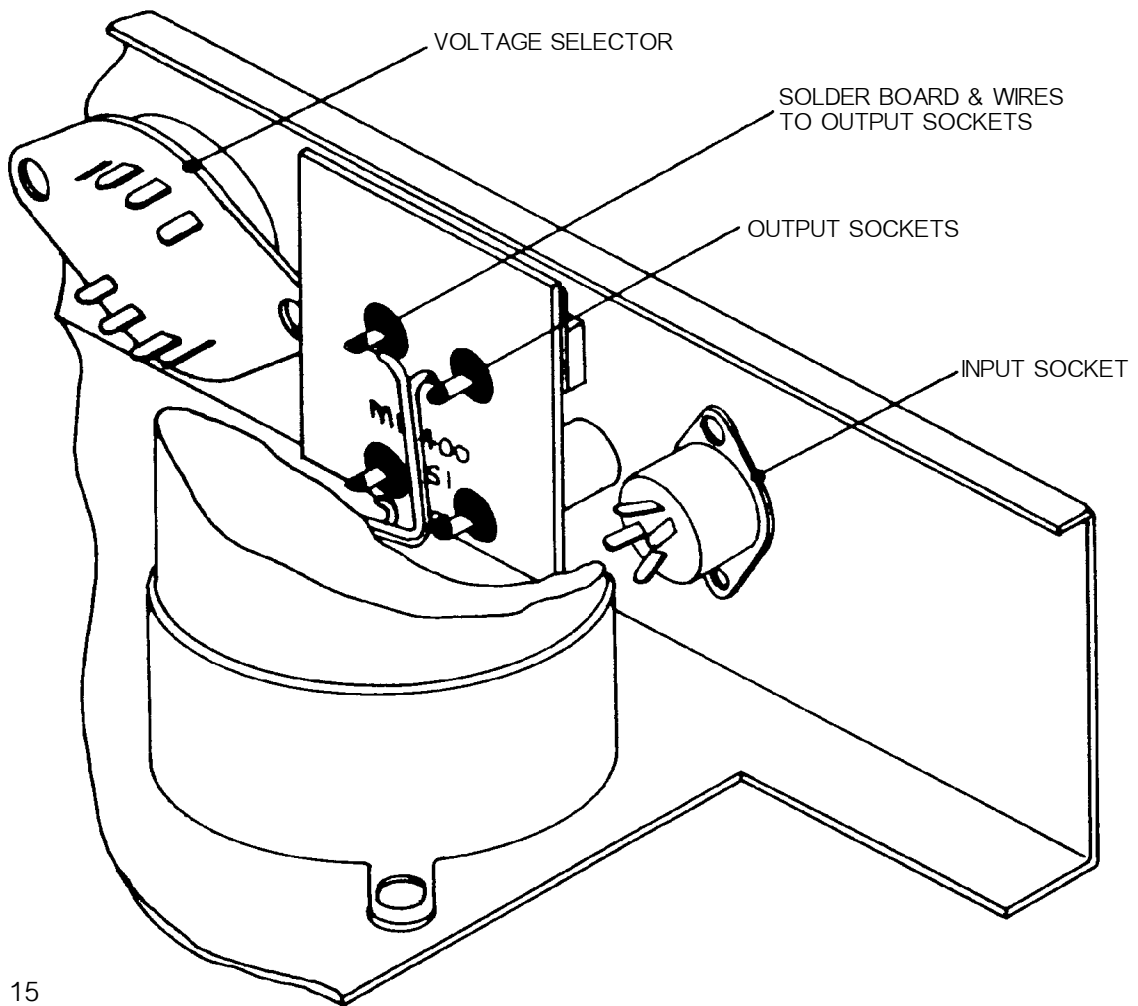

Fig. 15
□ Also at s/n 9000 a clamp circuit, on PCB M 12400, was mounted on the output terminal (Fig. 15).